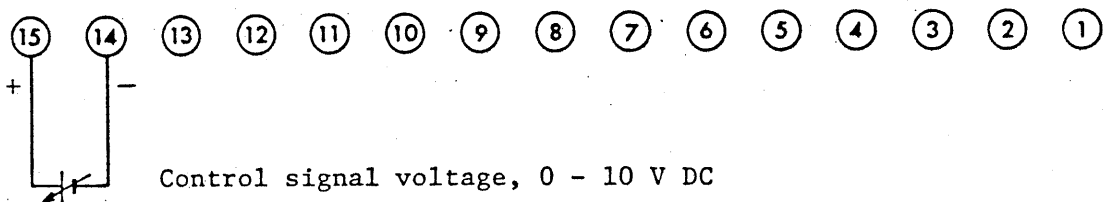

Figure 2-12-1
3. Apply the controlling voltage between terminals 14 and 15 on the rear panel, as shown in Fig. 2-12-1.